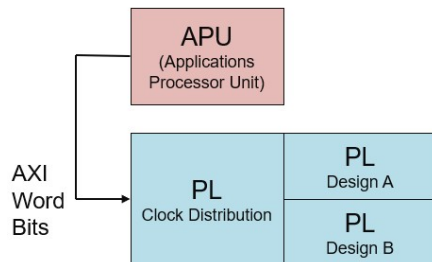

Fig. 17. PL clock gating controlled by AXI
AIE achieves these benchmarks by being an optimized Vector Processing System (all memory local), and by being adjacent to Programmable Logic (PL). This allows the bulk of a problem to be efficiently solved by the AIE, and its corner cases solved efficiently by PL (Fig 17).